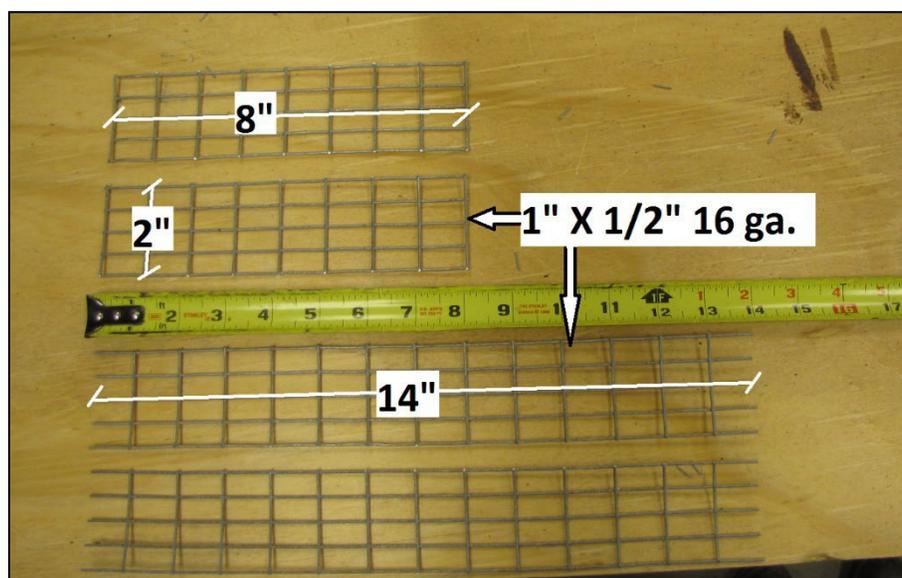

Figure 1-33
1. Utilizing 1" X 1/2" 16 gauge wire, cut 2 pieces at 2" X 8" and 2 pieces at 2" X 14" with tag ends left on both ends of the 14" pieces (Figure 1-33).